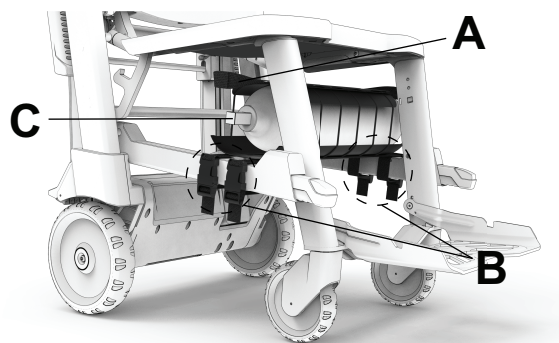

Figure 37 – Attaching the oxygen bottle holder
2. Place the oxygen bottle holder (A) between the two lower lift handle tubes under the seat pan (Figure 37).
3. Wrap all four straps around the lower lift handle tubes (B) and connect the side release buckles (Figure 37).
4. Slide the oxygen bottle (C) into the holder (Figure 37).